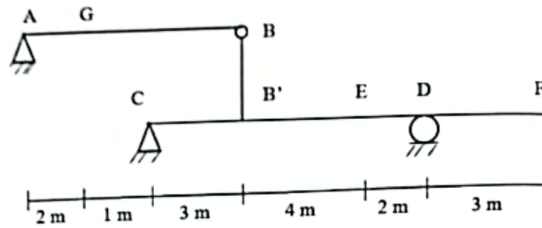

Fig. 8
8. a) Explain H-20 and HS-20 moving load. (10) 3
b) Determine the maximum value of  $R_A$ ,  $R_D$ ,  $R_C$ ,  $V_{DL}$ , and  $M_B$  for the following structure shown in Fig. 8 due to a 7 kN moving load. (30) 2